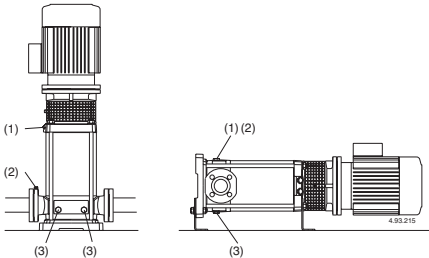
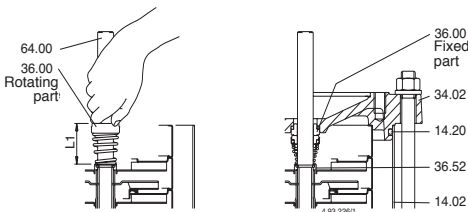

Fig.4 (1) Filling and air vent
Fig.5 Inserting the mechanical seal
When the pump is located above the water level (suction lift operation, **fig. 3A**) or with a positive suction head which is too low (less than 1 m) to open the non-return valve, fill the suction pipe and the pump through the priming hole (1) (**fig. 4**).
(2) Suction side air vent
(3) Draining
When the liquid level on the suction side is above the pump (inflow under positive suction head, **fig. 3B**), fill the pump by slowly and completely opening the inflow gate valve while keeping the delivery gate valve and air vent holes (1), (2) (**fig.4**) open to release the air.
Close the air vent holes (1), (2) (**fig.4**), for MXV-B, MXV(L) 25-32-40 e MXV(L)4 25-32-40 Tighten the needle screw (14.17) in the drainage plug (14.12) (**fig. 4b**) and close the air vent hole (14.04).
suction pipe couplings are perfectly sealed and tighten the air vent plug (2) and the draining plugs (3) on the suction side (**fig.4**).
Or, after draining, perform the washing operation, inserting clean water (at least 40 litres) into the filling hole (1) on the delivery side and allowing it to come out of the draining hole (3) on the suction side (**fig.4**).
Before dismantling, disconnect the power cable from the terminal box, close the gate valves in the suction and delivery pipes and empty the pump casing (**fig. 4**). For dismantling and re-assembly refer to the section drawing (**section 14.**) and **figures 5, 6**.
Push the rotating part as far as the shoulder ring (36.52) on the shaft (64.00), without compressing the spring. Check the length before and after insertion and raise the rotating ring as far as the initial length (L1 in fig.5).